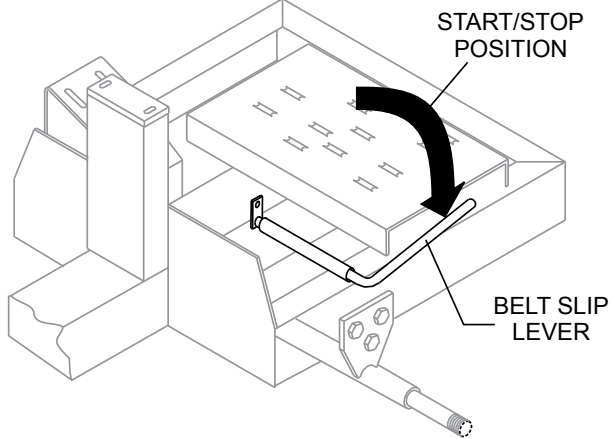

Figure 14. Belt Slip Lever (Start/Stop Position)
- Place the belt slip lever (Figure 14) in the START/STOP (disengaged) position.
1. Place the belt slip lever in the start/stop position (Figure 14).